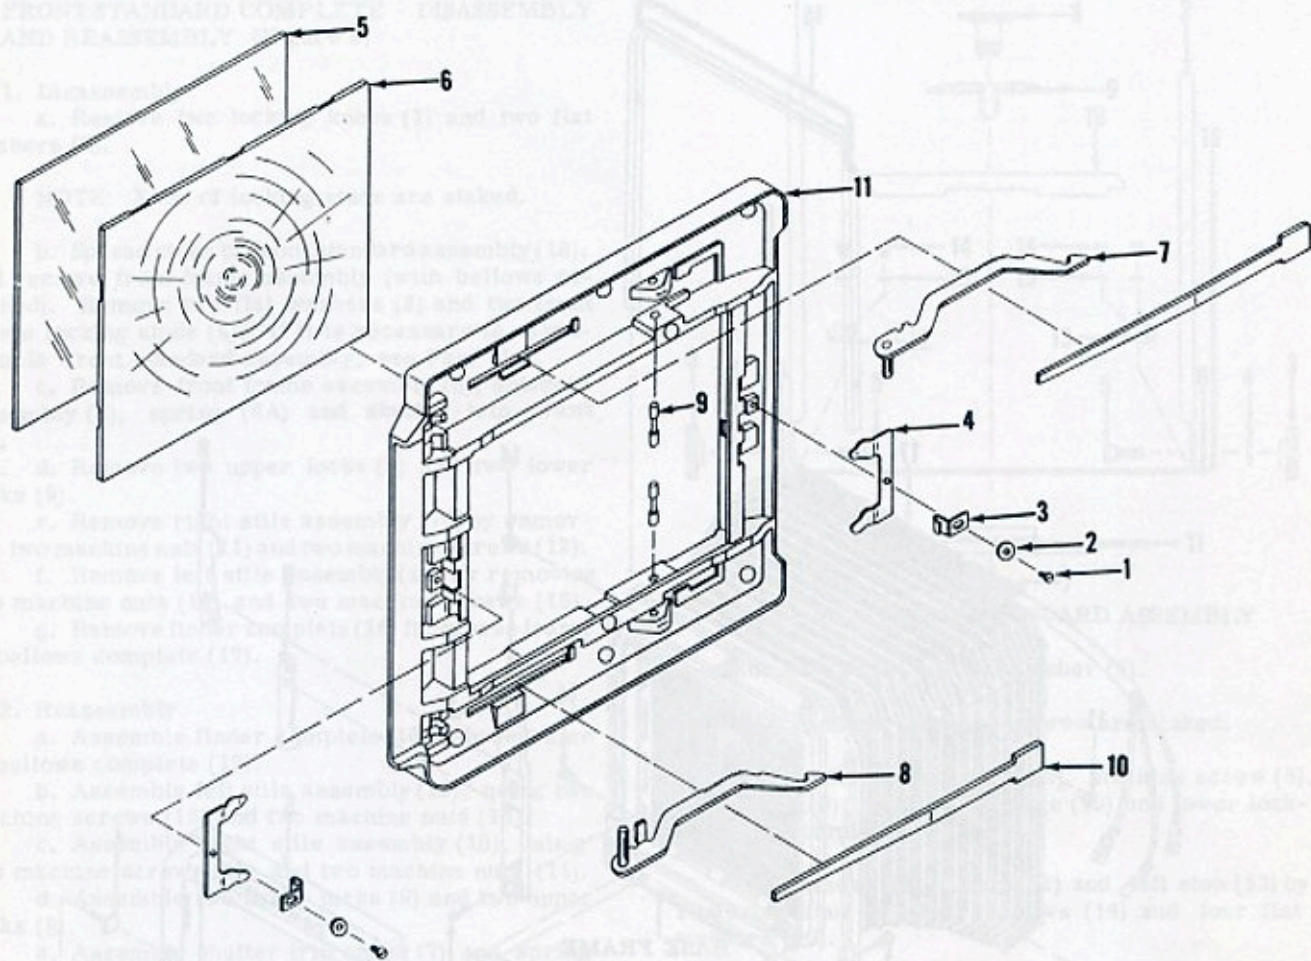

Figure 8. FOCUSING FRAME ASSEMBLY
T. FOCUSING FRAME ASSEMBLY - DISASSEMBLY AND REASSEMBLY (Figure 8)
a. Remove machine screw (1), flat washer (2), focusing hood retainer (3) and focusing screen retainer (4) on two sides.
b. Remove ground glass focusing screen (5) and Ektalite screen (6).
c. Remove arm assembly (7) or (8) by lifting upward on hook end of arm and pulling straight backward.
d. If necessary, remove spring pin (9) and arm assembly spring (10) by depressing spring (releasing spring tension on shaft of pin) and driving pin towards large opening in focusing frame (11). Repeat same procedure on opposite side.
e. Wash ground glass focusing screen (5) and Ektalite screen (6) with soap and water. Rinse thoroughly and dry.